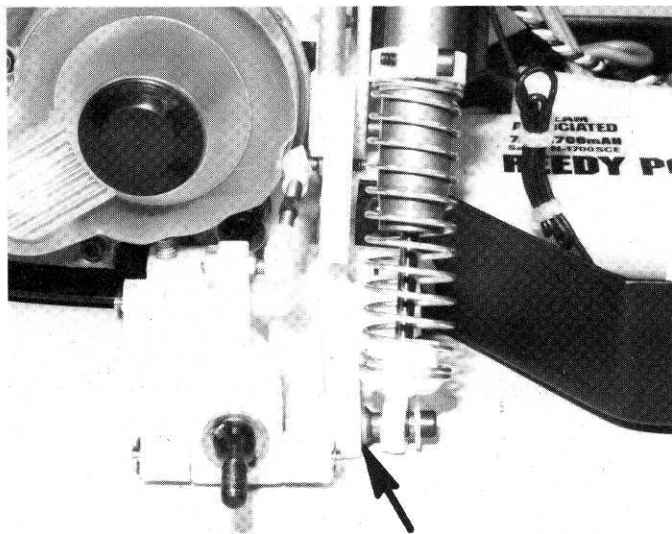

Fig. 116
□ **Fig. 116** For the shock bottom installation we want the flat part of the metal ball end to be against the "A" arm, as shown. In the "A" arm, there are 4 holes. Install it in the outside hole. Slip a washer on the screw, and install the screw.